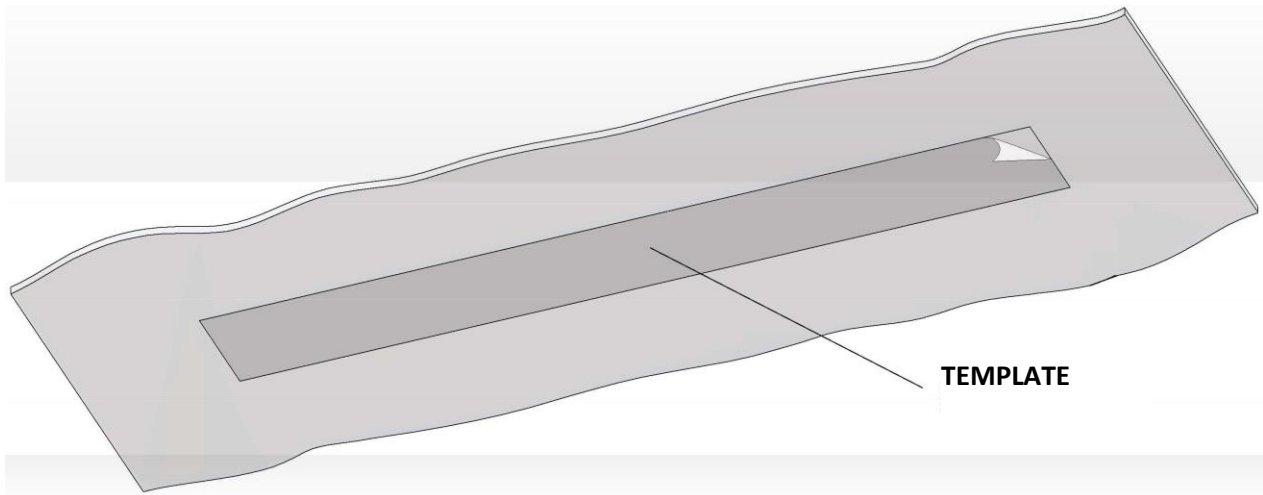

Fig.1
2. Stick the foil template of the main hole in the place designated for mounting the screen, and then outline it with a pencil (**Fig.1**). After removing the foil, carefully cut in the ceiling the hole along the outline made on the basis of the template.